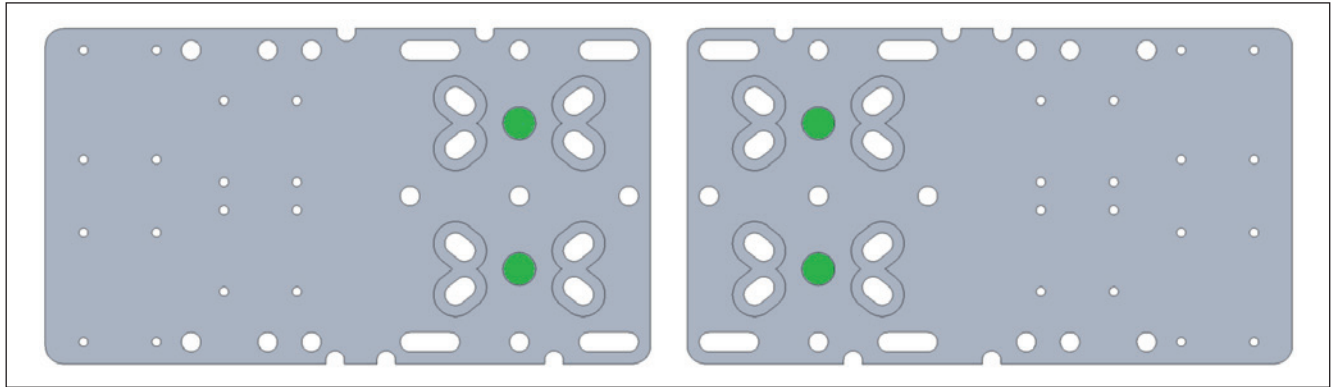

Fig. 15: Type 2 plate 1 dowel pins
5. Insert the two centering pieces in the holes provided in plate 2 → Fig. 15.